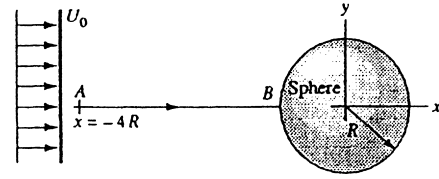

Fig. P4.7
**4.7** Consider a sphere of radius  $R$  immersed in a uniform stream  $U_o$ , as shown in Fig. P4.7. According to the theory of Chap. 8, the fluid velocity along streamline  $AB$  is given by